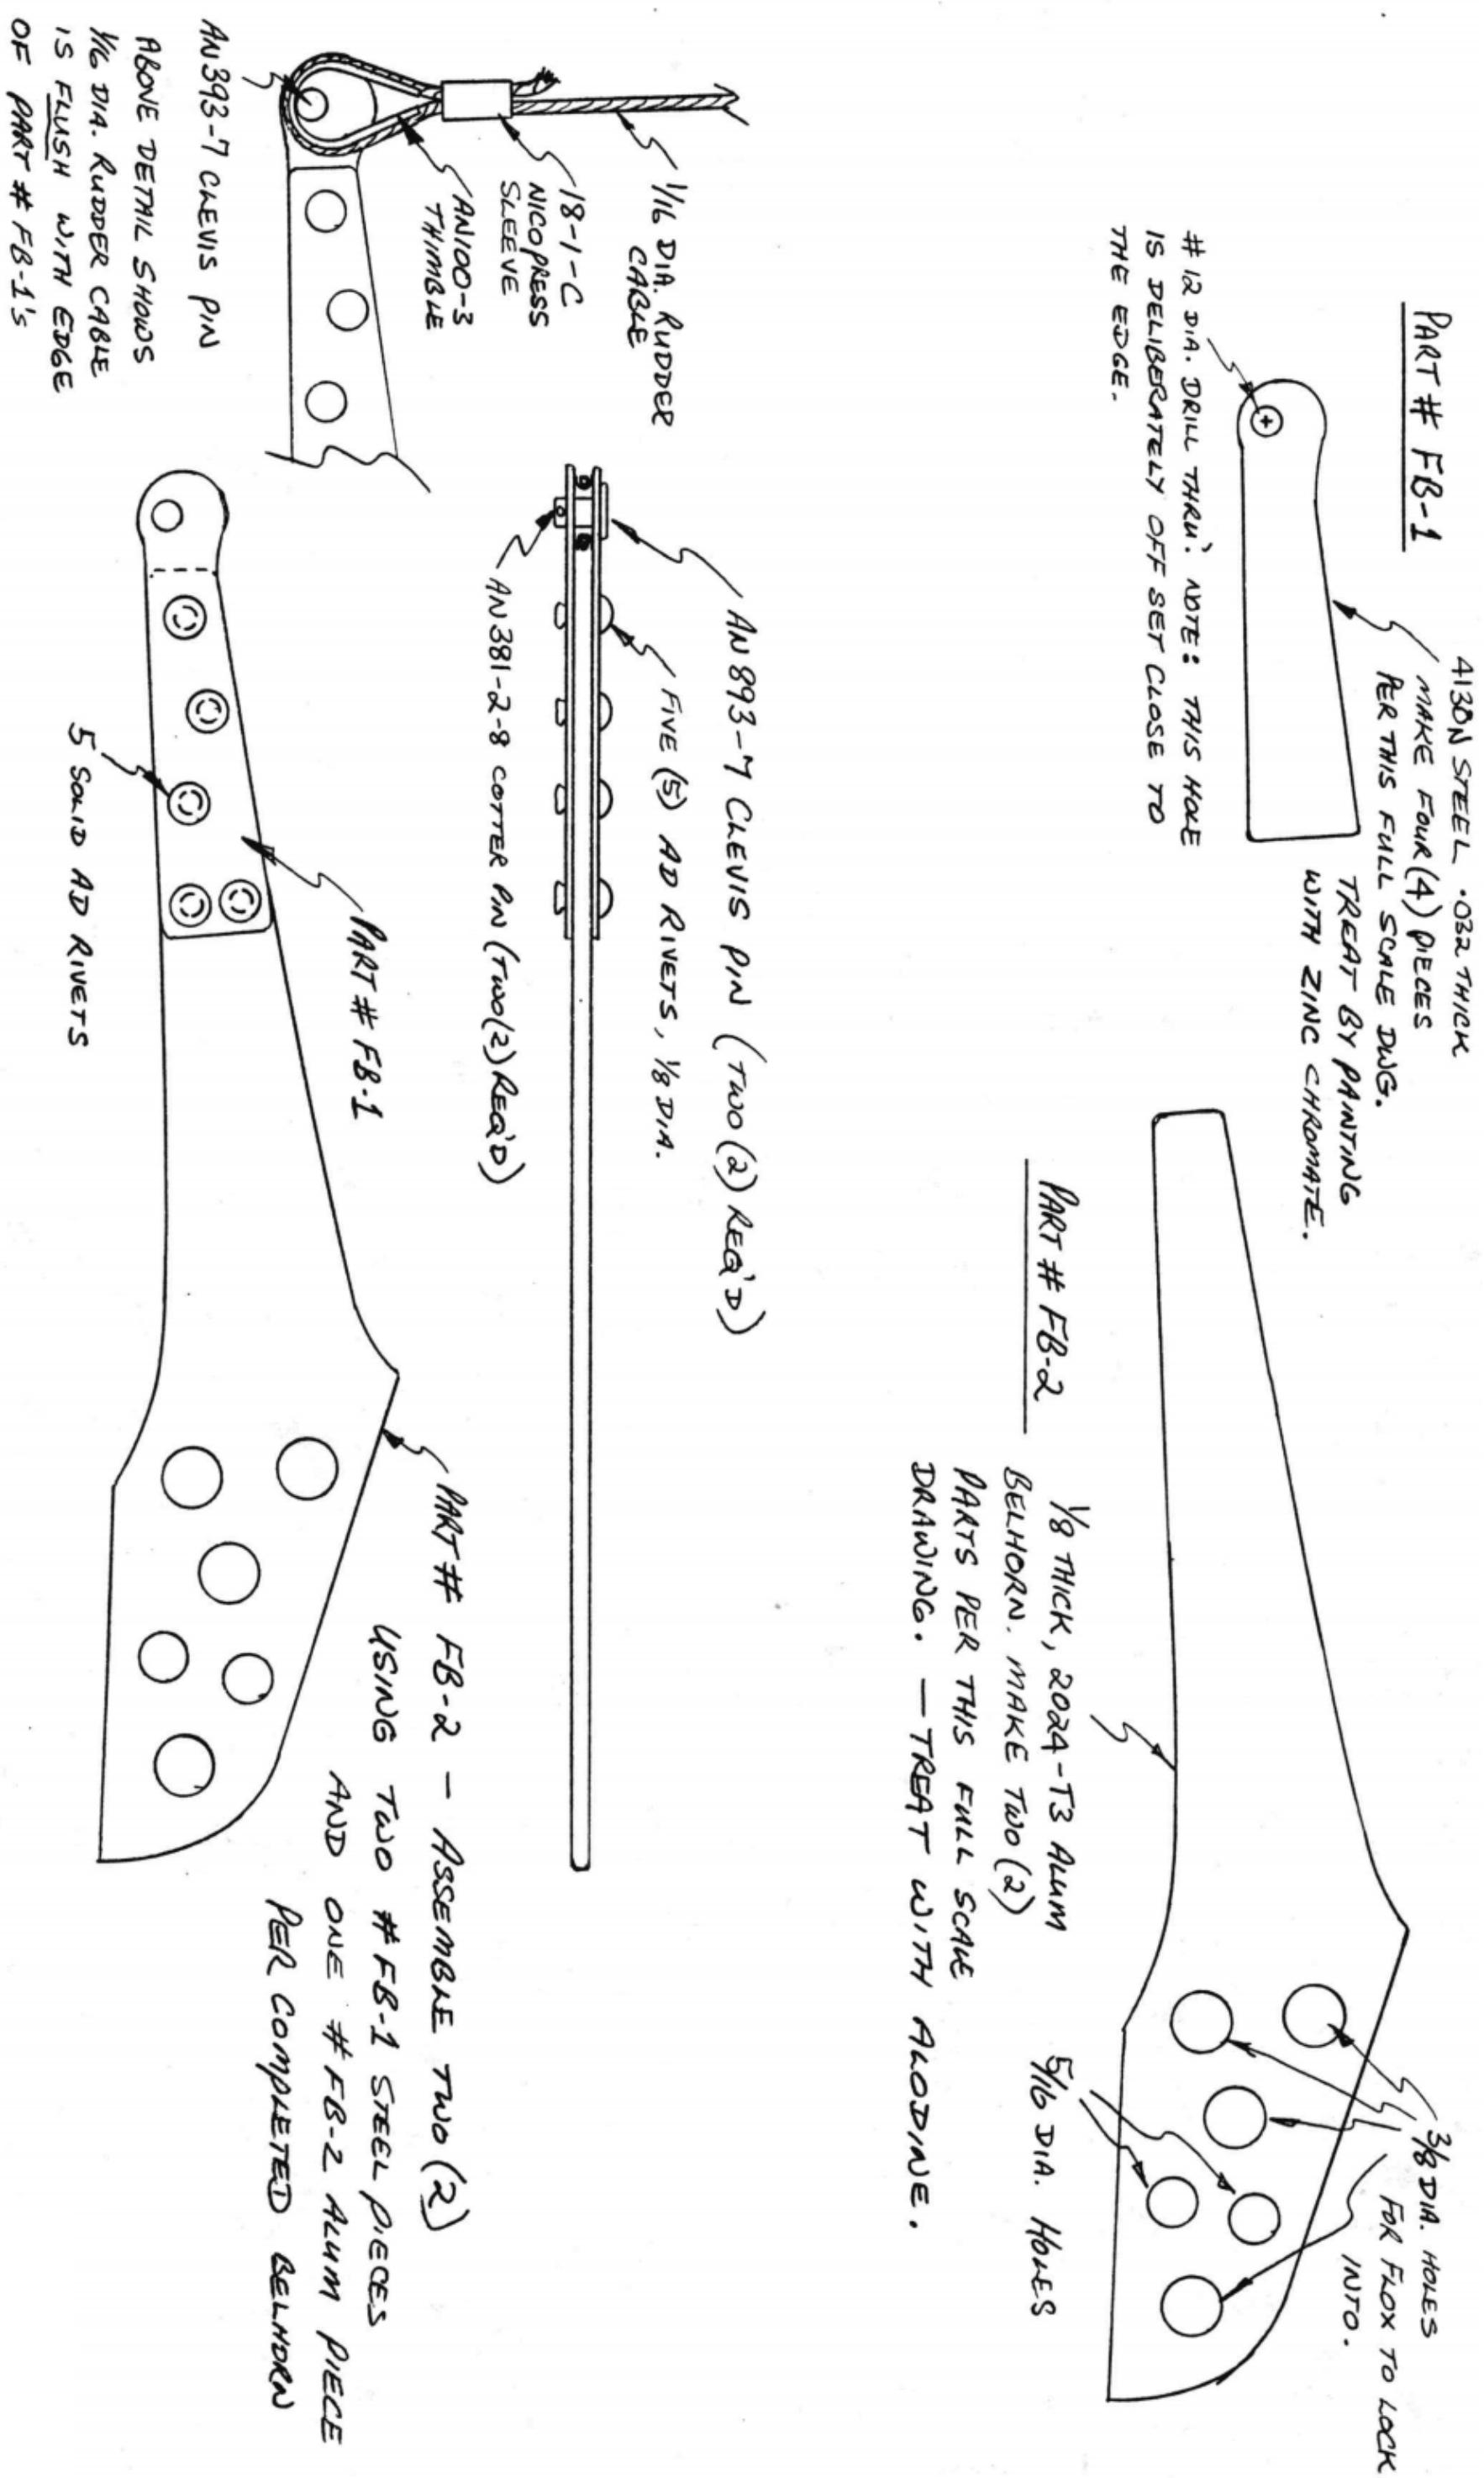

Figure 20-30: Internal Belhorn assembly
Figure 20-30 depicts internal belhorn components, you will need two (2) FB-2 belhorns made from 1/8" thick, 2024-T3 aluminum and then treated with Alodine. RAF has found that if we glass bead blast aluminum parts then clean them in Alumiprep and then treat them with Alodine, we get best results. Also make four (4) FB-1 steel, parts from 0.032 4130N Sheet. We simply cleaned these steel pieces with metal prep and painted them with a spray can zinc chromate.
Clamp the FB-1 steel pieces in position on the FB-2 belhorns and drill #30 holes in five (5) places per Figure 20-30. All parts are drawn full scale in Figure 20-27. We used solid AD3-3 rivets to secure FB-1's to FB-2. (AD rivets are countersunk, you will need a 100 degree countersink tool. This will be used on both the rudder to hinge and when connecting FB-1's with FB-2.)